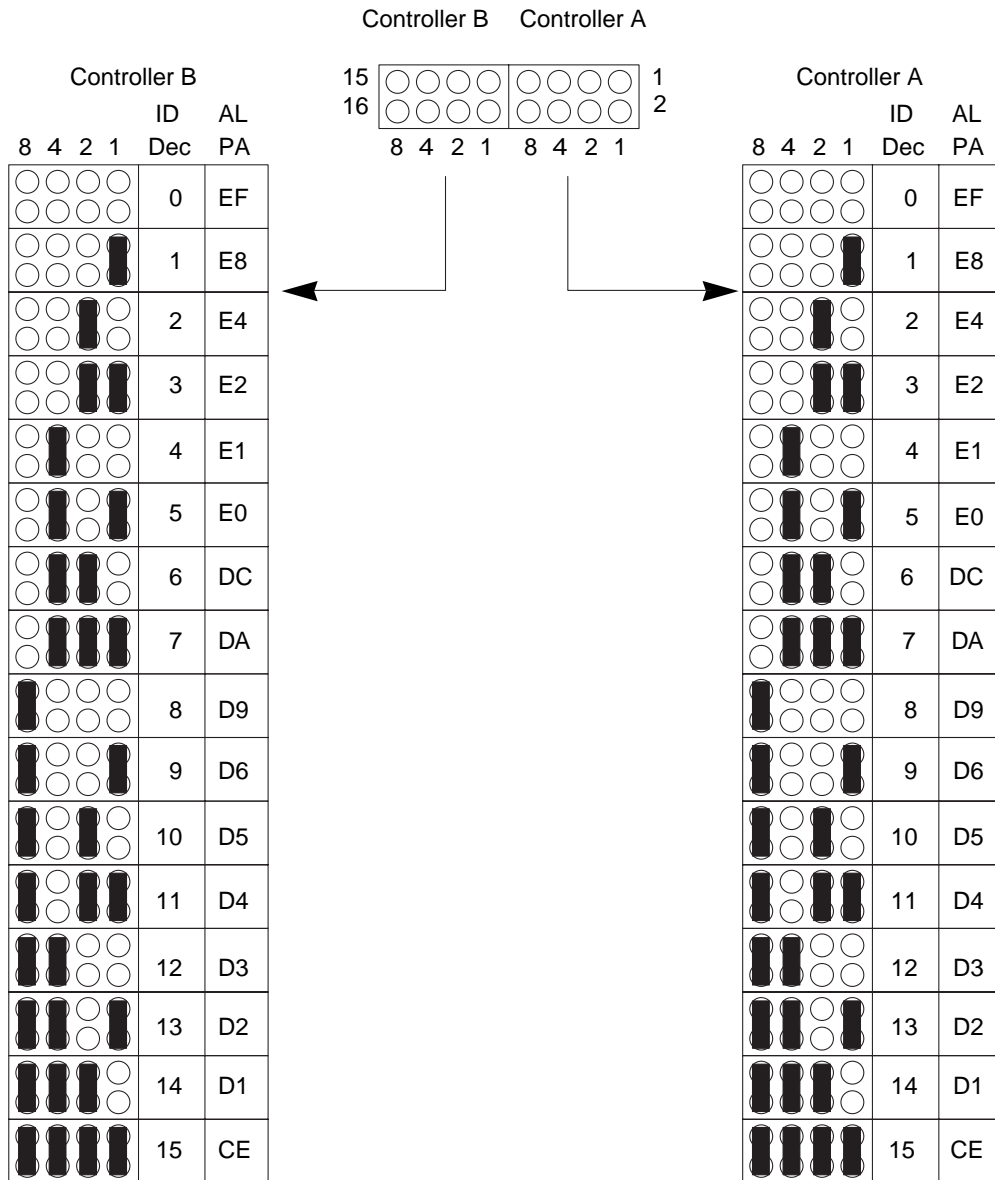

FIGURE 2-8 Controller Module FC-AL ID Settings
1. Locate the 16 pins on the rear of the FC-AL controller module (FIGURE 2-8).
2. Wearing the antistatic wrist strap, install jumpers on the pins as shown in FIGURE 2-8.